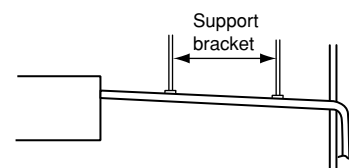

Fig. 6-9
- Do not apply force to the piping on the unit side when connecting the drain pipe. The pipe should not be allowed to hang unsupported from its connection to the unit. Fasten the pipe to a wall, frame, or other support as close to the unit as possible. (Fig. 6-9)